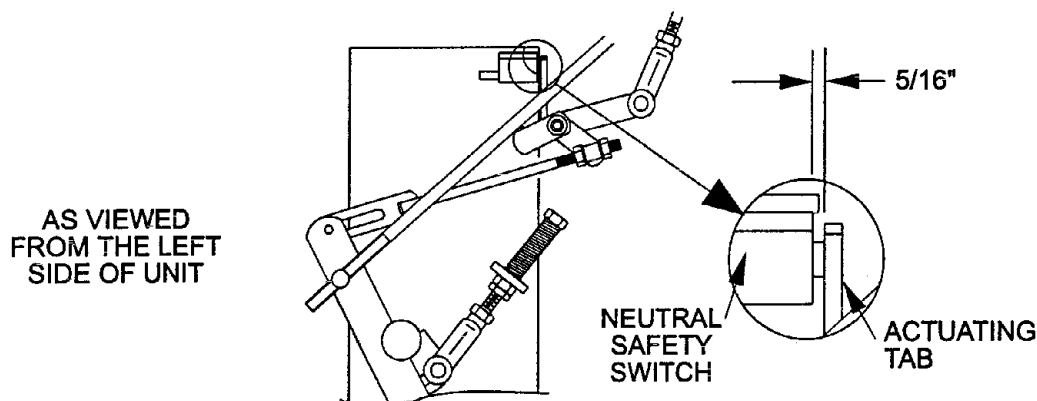

FIG. 15
2. Pull the speed control lever back to neutral. Check that the neutral safety switch actuating tab has depressed the plunger of the switch so that there is about 5/16" between the tab and the switch. See fig. 15. If necessary, move the switch fore and aft.